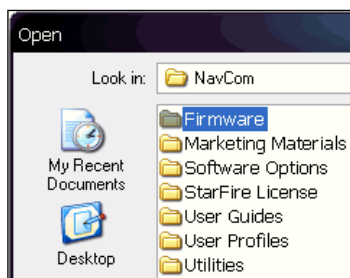

Figure 16: Firmware Folder
31. Browse to the NavCom\Firmware folder on the PC (refer to Figure 16).
32. Select the appropriate *unified* file to upload and click  (see Figure 16).